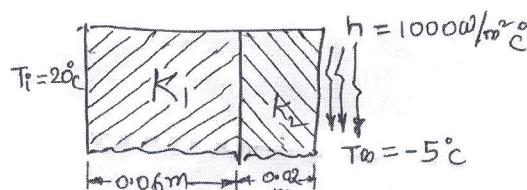

Fig.Q7(b)
b. Determine the temperature distribution through composite wall shown in Fig.Q7(b) when the convective heat loss occurs on the right surface. Take K₁ = 6 W/m°C and K₂ = 20 W/m°C. (10 Marks)